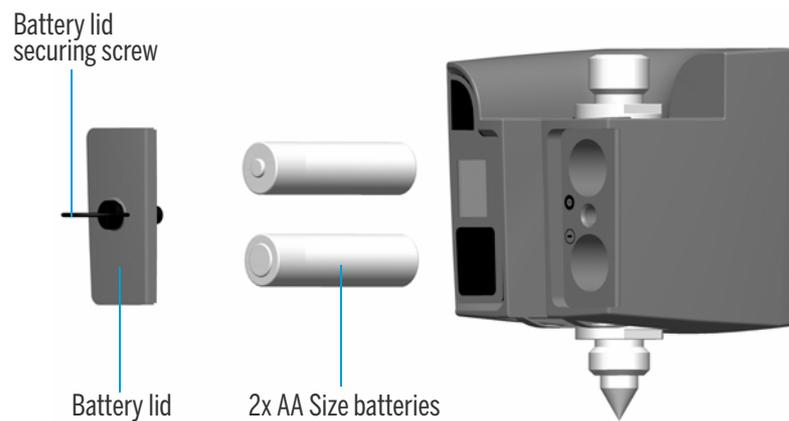

Figure 5.41 Target ID battery change
4. Fit the battery lid and then secure it by turning the screw a quarter of a turn clockwise. See Figure 5.41